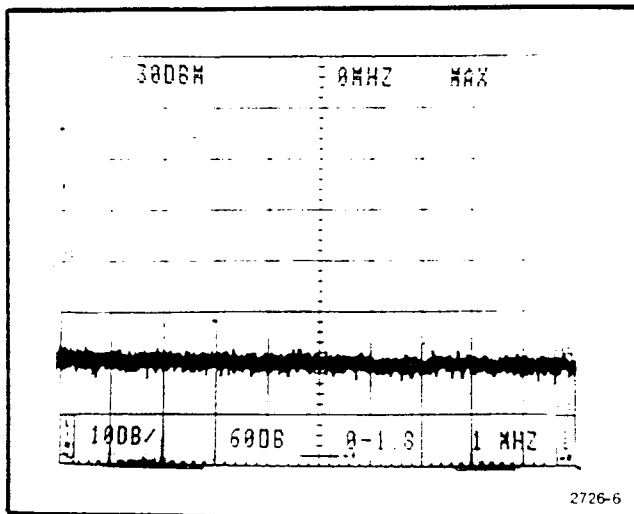

Fig. 3-3. CRT readout for power-up state.
a. Connect the 492 power cord to an appropriate power source (see Power Requirements under Installation instructions) and switch POWER on. Allow three to four minutes for the instrument to warm up and stabilize before proceeding. Note that the crt readout is functioning (see Fig. 3-3).